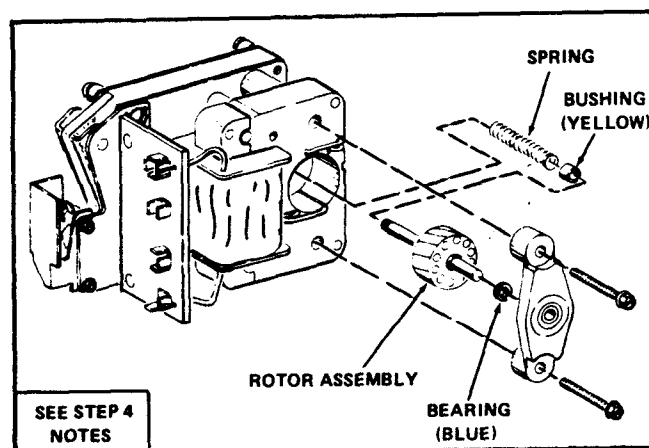

FIGURE II-1
2. Remove the two Slotted Hex. Head Screws which attach the Rotor Bearing Casting to the Motor. See Figure II-1.
5. Place the replacement Bearing (blue), part number 121-7187, on the replacement Rotor Assembly, part number 127-7009. The Bearing fits on the Shaft, which does not have the Gear on it. See Note above and Figure II-1.